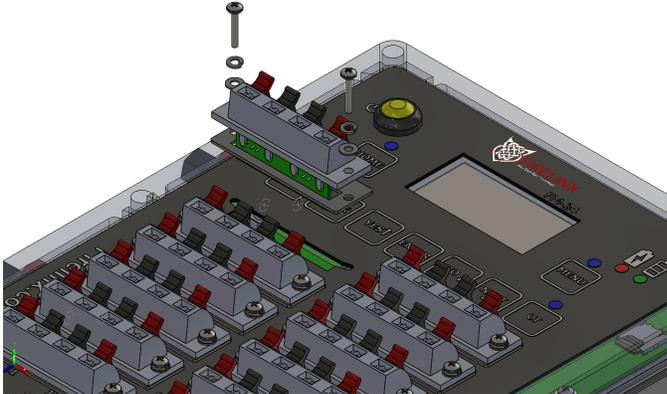

Figure 39
1. Remove the (12) spring terminal blocks, (See figure 39)